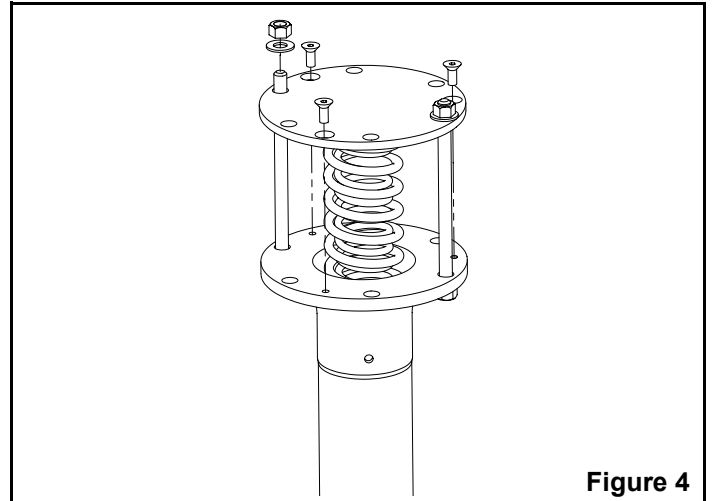

Figure 4
6. Insert the springbox tool (MBW #06468) rods into the springbox as shown in Figure 4.